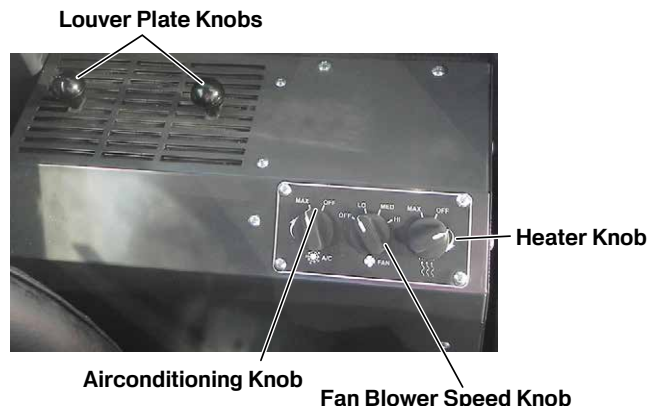

Figure 4-8. Cab Heater/Air Conditioning (A/C)
The heater and A/C evaporator unit are installed in the console located on left side of the cab (Figure 4-8).
- Turn both louver plate knobs (**Figure 4-8**) counterclockwise about a half turn.
Turn heater knob (**Figure 4-8**) clockwise to HEAT position and air conditioning knob clockwise to A/C position. Then turn fan blower speed knob clockwise to desired fan speed setting of LO (low), MED (medium), or HIGH.
1. Turn heater knob (**Figure 4-8**) clockwise to HEAT position. Continue turning clockwise to increase heater temperature (MAX position is warmest heater temperature setting).
- Turn air conditioning knob (**Figure 4-8**) clockwise to A/C position. Continue turning clockwise for colder temperature (MAX position is coldest air conditioning temperature setting).
- Turn fan blower speed knob (**Figure 4-8**) clockwise to LO position for low speed fan setting. Continue turning clockwise to MED position for medium fan speed setting and HI position for high speed fan setting.